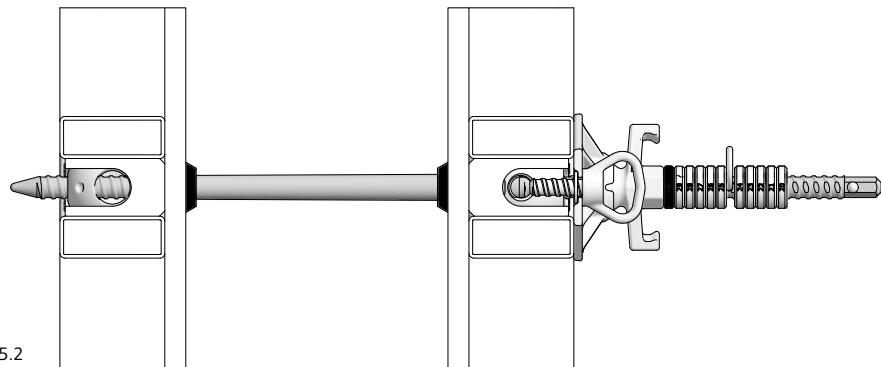

Fig. 15.2
- Single-sided tying with XT taper tie 20 (without plastic tube) (Fig. 15.2)